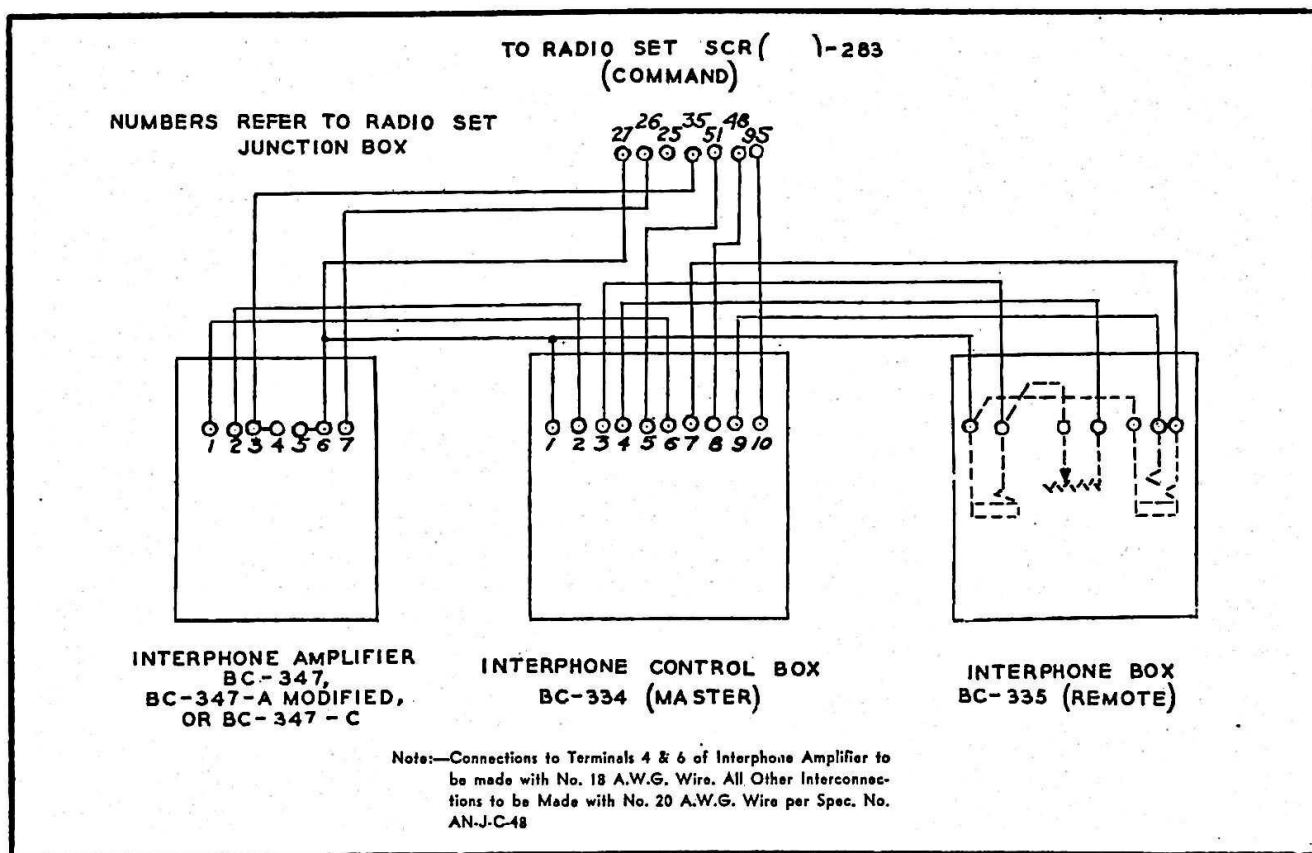

Figure 1-8. Interphone Equipment RC-34—Typical Installation, Interconnection Diagram
(1) Glue the template (furnished with the mounting) to the bottom of the amplifier box in accordance with the instructions on the template.
(2) Drill the four No. 2 holes in the bottom of the amplifier box.
(3) Assemble the amplifier to the mounting using the No. 10 binding head screws and lockwashers furnished with the mounting. The base plate for the mounting is already drilled for installation, and no additional preparation is required.
c. WIRING.—After the interphone amplifier, interphone boxes and dynamotor have been mounted in the proper locations in the airplane, interconnect them with Air Force wire (Specification AN-J-C-48) in compliance with Specification AN-W-14. Wire the circuits in accordance with standard Air Force drawings. The amplifier and Interphone Control Box BC-334 have jack strips, mounted on the bottom of the boxes, with solder terminals on the under side to which the conductors are connected. Enough slack must be left in the leads for Interphone Box BC-335 to allow for removal of the cover. It is desirable to turn the volume control unit in Interphone Box BC-335 so that the terminals are toward the side of the box opposite that which the interconnecting wires enter. If audio howl or feedback occurs under any condition, shield all the microphone leads. Figure 1-8 shows a diagram for a typical installation.
(1) Radio Set SCR-()-283 (if installed in the airplane).—If the high voltage is obtained from the dynamotor unit of this radio set, a suitable dropping resistor (8000 ohms, 10 watts), such as Resistor RS-250, must be used to reduce the voltage output of this dynamotor to approximately 250 volts, the proper value for operation of the interphone amplifier.
(2) Dynamotor PE-86-().—Normally supplied as a part of this equipment when radio sets other than Radio Set SCR-()-283 are installed in the airplane.
(3) The power supply unit of any other radio set in the airplane capable of furnishing 225-300 volts at 18 milliamperes. If the voltage of the power supply used